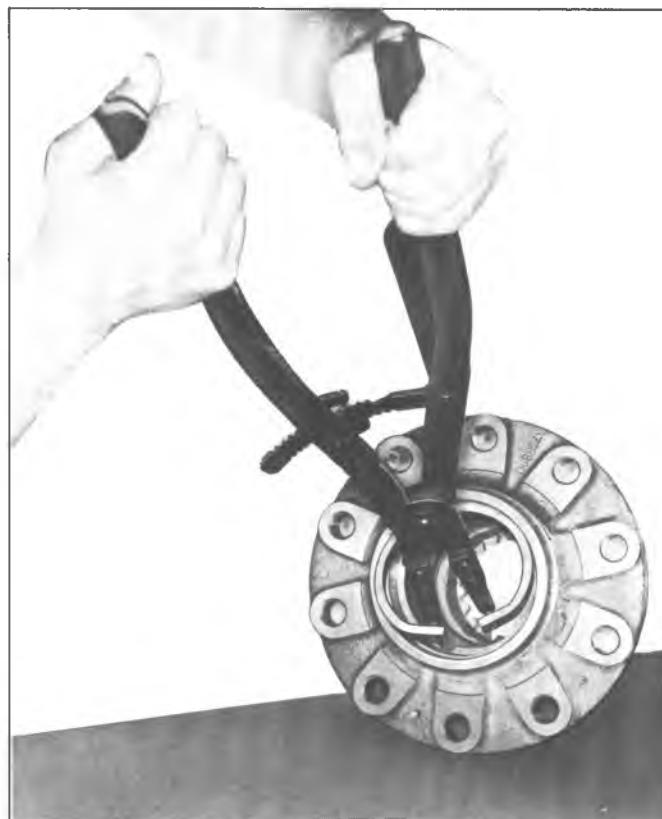
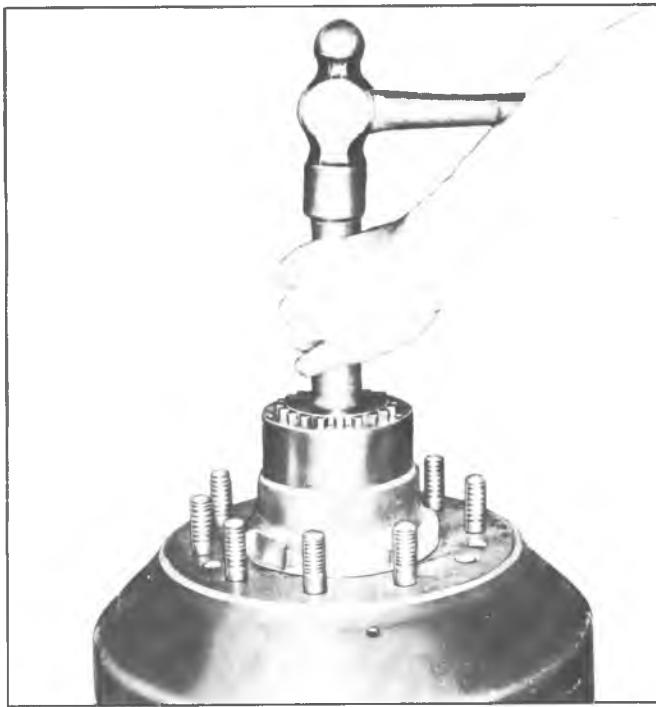

Fig. 71—Removing Hub Outer Bearing Retainer Ring
Fig. 72—Removing Hub Outer Bearing
- Use J-22380, as shown in figure 71, to remove **outer** bearing retainer ring.
- Remove the outer bearing by driving on the axle shaft spacer, using the splined flange cut from an old axle shaft, as shown in figure 72.
4. Withdraw cup installer, then install retainer ring, using J-22380 as shown in figure 71. Press the cup into contact with the retainer ring as shown in figure 72.